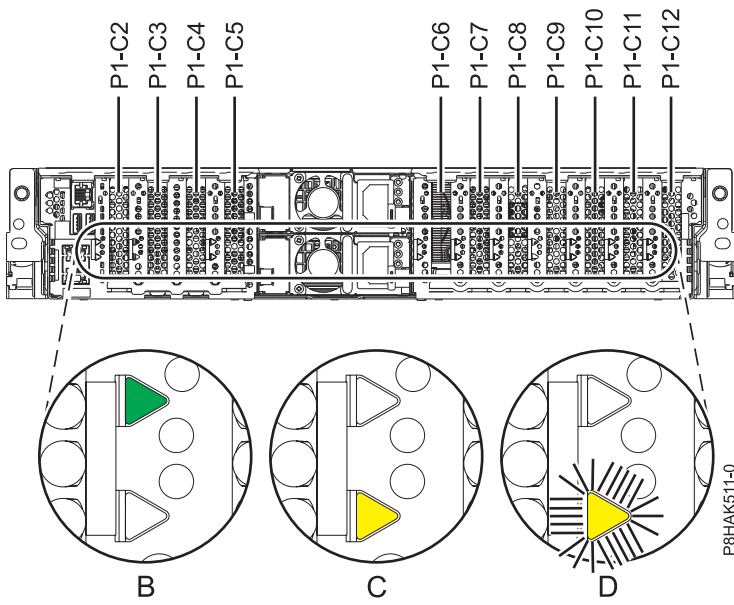

Figure 23. PCIe adapter slot locations and locations of the LEDs in the 5148-21L, 5148-22L, 8247-21L, 8247-22L, 8284-21A, or 8284-22A system
1. Familiarize yourself with the locations of PCIe adapter slots and the service indicators for the PCIe adapter that you want to service. The PCIe adapters are installed in the rear of the system. Figure 23 on page 40 shows the locations of the PCIe adapters in an 5148-21L, 5148-22L, 8247-21L, 8247-22L, 8284-21A, or 8284-22A system and the locations of the light-emitting diodes (LEDs) for the PCIe adapter.